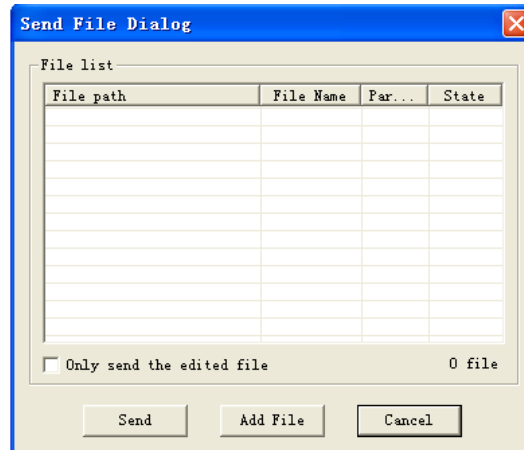

Fig. 11-1-3-5
3. Click the button in acceptance file dialog frame, and then the selection dialog frame shows, refer to the Fig.11-1-3-6.